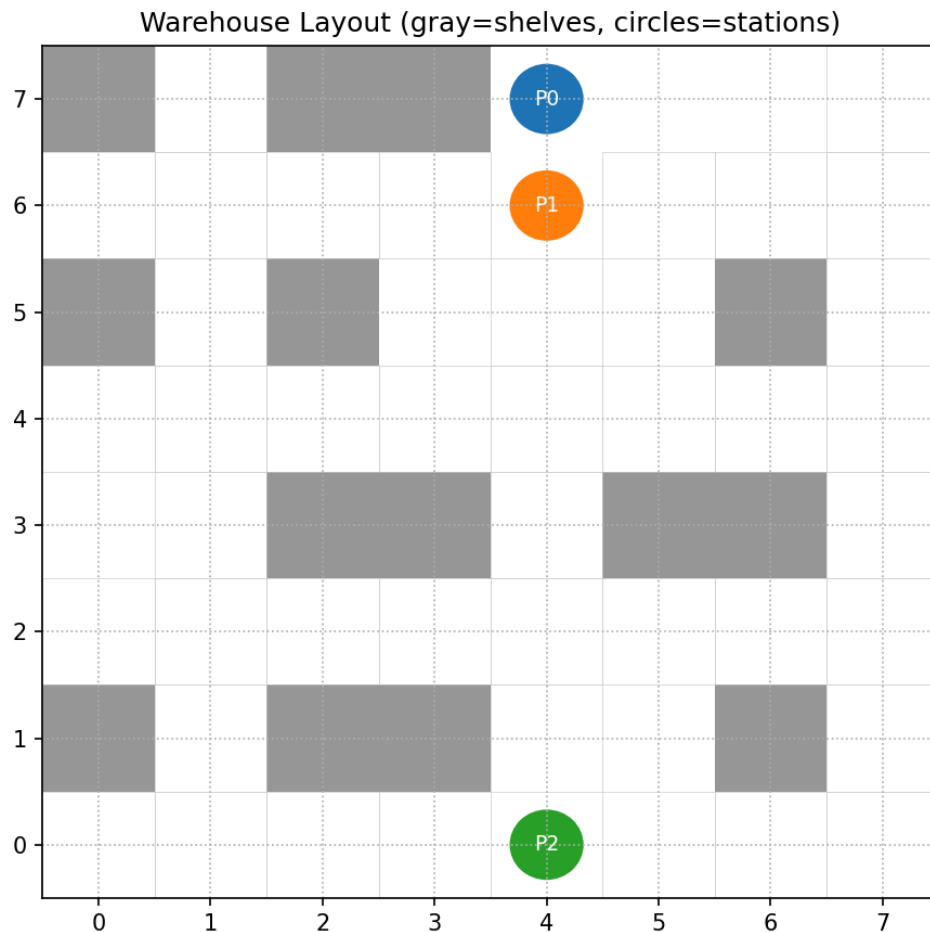

Figure 1: Sample warehouse layout
- The warehouse is represented as a **grid** (for example, 8×8 cells see figure 1).